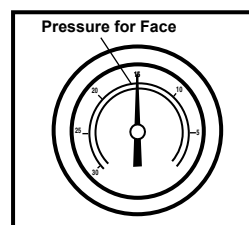
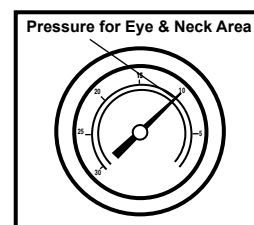

Figure 16
Figure 17
- Turn on the machine and test the pressure with your finger. The gauge should read about 15 to begin on the face (fig. 16). Turn down to 10 for eyes and neck area (fig. 17).